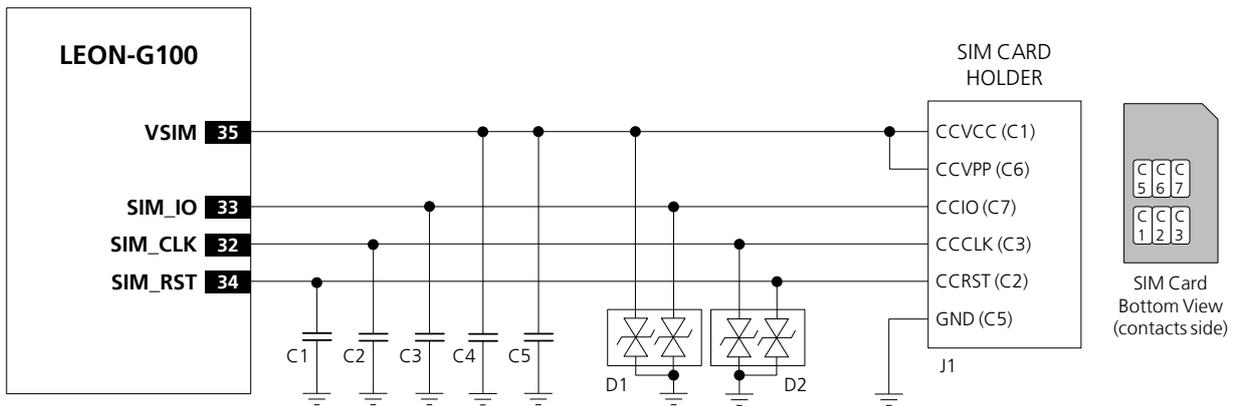

Figure 20: SIM interface application circuit
Figure 20 shows the minimal circuit connecting the LEON-G100 and the SIM card. This shows the **VSIM** supply connected to the VPP pin (contact C6) of the SIM card as well as VCC (contact C1). Providing VPP was a requirement for 5 V cards, but under *3GPP TS 51.011 specification* [17], 3 V and 1.8 V SIM cards do not require VPP and the mobile equipment (ME) need not provide contact C6. If the ME provides contact C6, then it can either provide the same voltage as on VCC or it can leave the signal open, but it cannot connect VPP to GND.